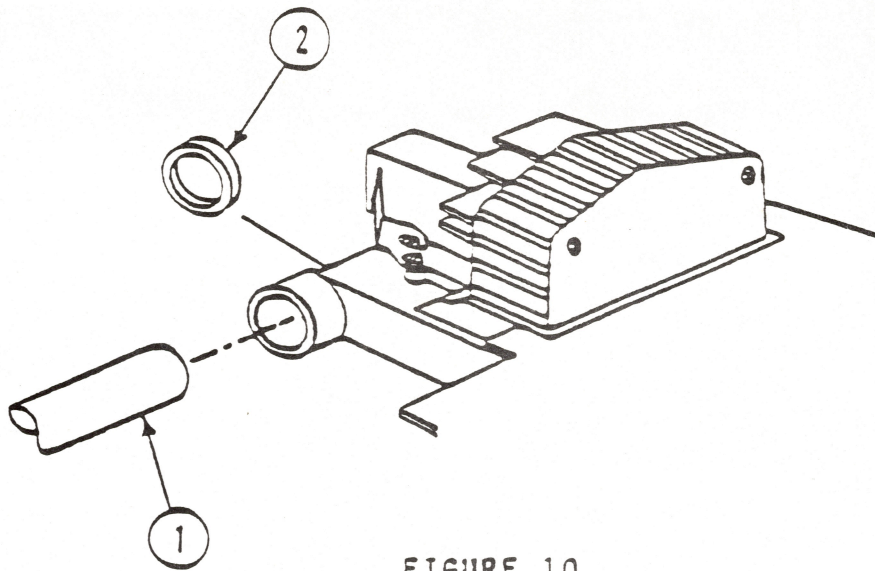

FIGURE 10
4. On the carrier shaft, wipe off any dirt with dry gauze or absorbent cotton (see Figure 10, #1).
5. On the lubrication ring (see Figure 10, #2), apply six drops of lubrication oil (tellus #46, Apple part number 960-0006). Clean off any excess.